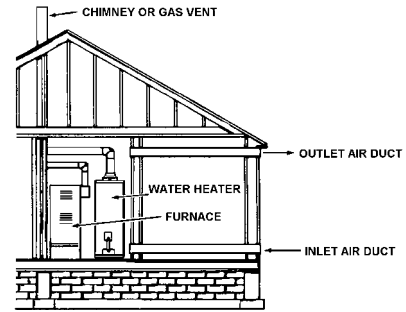

FIGURE 8.
3. When communicating with the outdoors through horizontal ducts, each opening shall have a minimum free area of 1 square inch per 2,000 Btu per hour (11 cm²/kW) of total input rating of all equipment in the enclosure, see Figure 8.
4. When ducts are used, they shall be of the same cross-sectional area as the free area of the openings to which they connect. The minimum short side dimension of rectangular air ducts shall not be less than 3" (76.2 mm), see Figure 8.